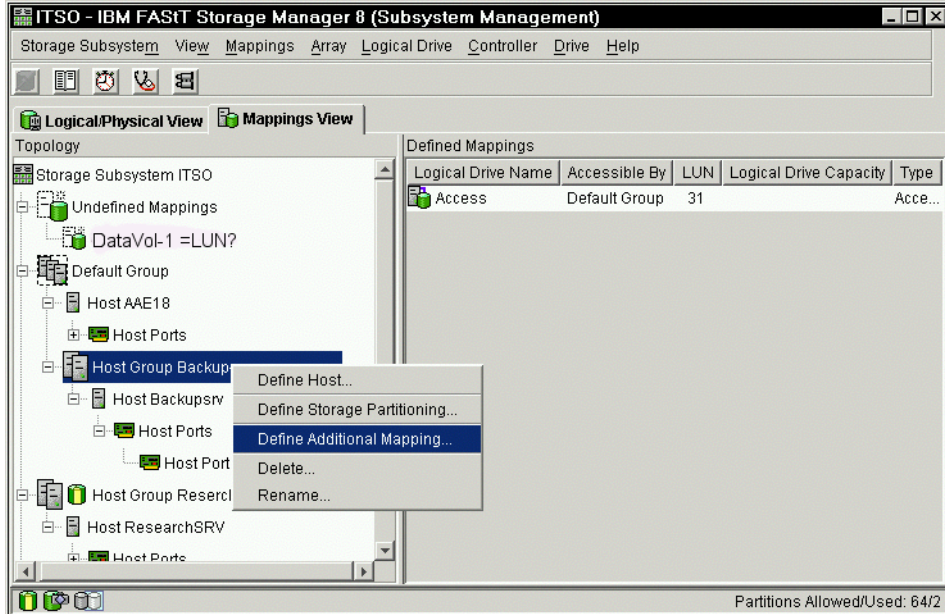
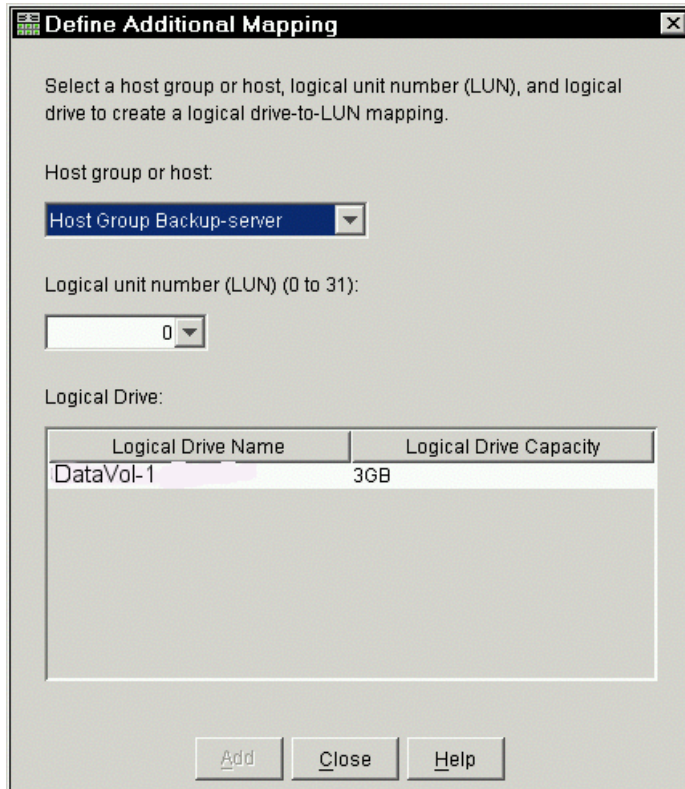

Figure 5-20 Define Additional Mapping
Figure 5-21 Define Additional Mapping window
3. Right-click and select **Define Additional Mapping**, as shown in Figure 5-20.
4. The Define Additional Mapping window (Figure 5-21) opens. Follow these steps:
In the example shown in Figure 5-20 and Figure 5-21, the FlashCopy logical disk “DataVol-1” is made available to the backup server host group. This enables the backup server to access and mount the disk as part of its own file system. It also allows a local backup to be performed by the backup application software.